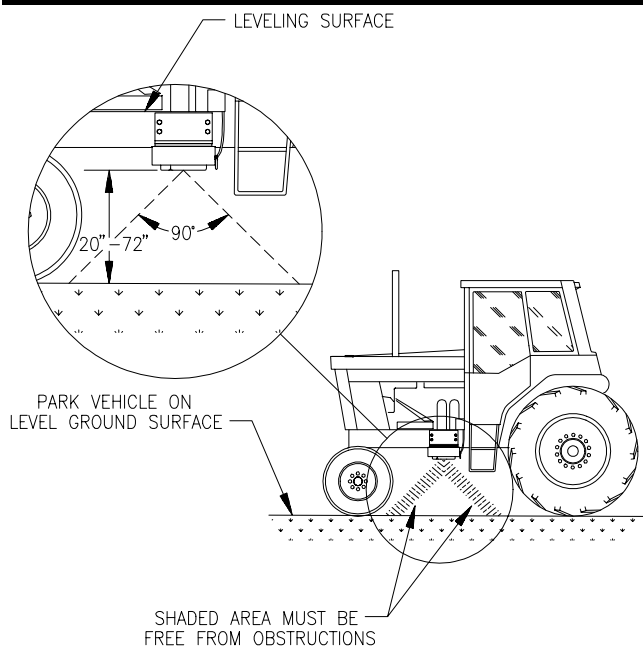

FIGURE 1
- a) The line of sight from the lens to the ground must not be obstructed by structures or tires. Obstructions must not come closer than 20 inches to the bottom of the Radar. See Figures 1 and 2.